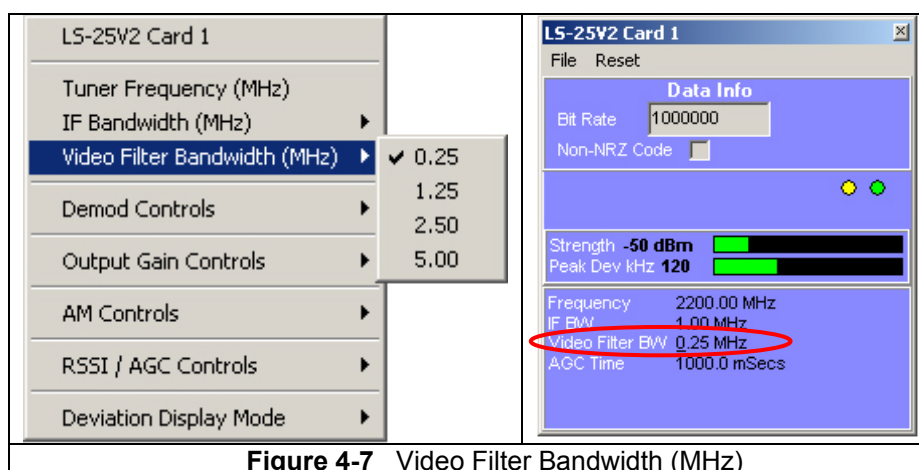

Figure 4-7 Video Filter Bandwidth (MHz)
The Version 2 Lumistar LS-25-D Multi-band RF Downconverter and the LS-25 Multi-band FM Receiver are factory configured to support up to twelve (12) separate Video Filter bandwidths. Standard bandwidths include: 250kHz, 500kHz, 750kHz, 1.25MHz, 1.75MHz, 2MHz, 3MHz, 4MHz, 5MHz, 6MHz, 8MHz, and 10MHz. At the factory the selected Video Filter bandwidth values are programmed into a configuration PROM (see paragraph 5.2.7 on page 39 for more details) and are used by the LDPS application to populate frequency values in the pop-up list box shown in Figure 4-7 below left. In the example shown, the unit is factory configured with Video Filter bandwidths of 0.25, 1.25, 2.50, and 5 MHz. The actual Video Filter bandwidths the individual user will see when setting the Video Filter bandwidth are likely to be different than those show here. Once selected, the Video Filter bandwidth will be displayed as shown in the figure below right (red oval).